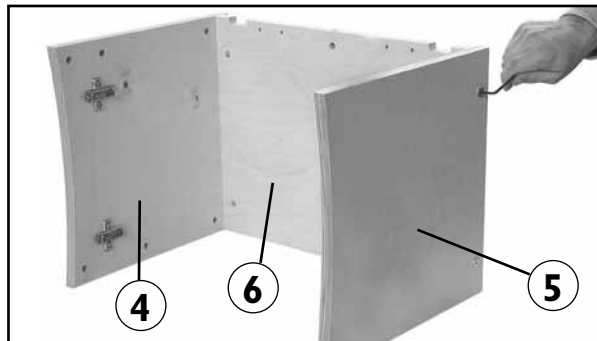

Fig. 4
4. Attach side panels to the back panel (6). The back panel has two notches that identify the top of the panel, as shown in **Fig 4.** The left panel has the hinges. Align the two holes in side panels with the corresponding holes in the back panel. Use 1/4-20 x 2" round head bolts (20) and 1/4-20 cross dowels (25). The cross dowels go in the back panel. Tighten with the included 5/32" hex wrench (33). Repeat this step for the right panel. Do not fully tighten the bolts at this time.